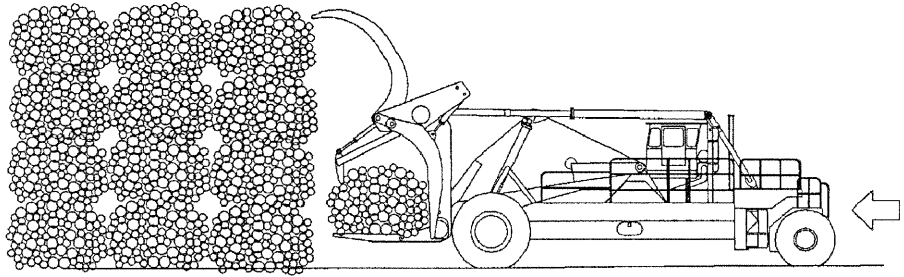

Fig 4-17
1. When approaching the deck with a bundle, clamp the bundle with the auxiliary holddown arms and then raise the main holddown arms. This allows the bundle to be placed tightly against the others. See Fig. 4-17.